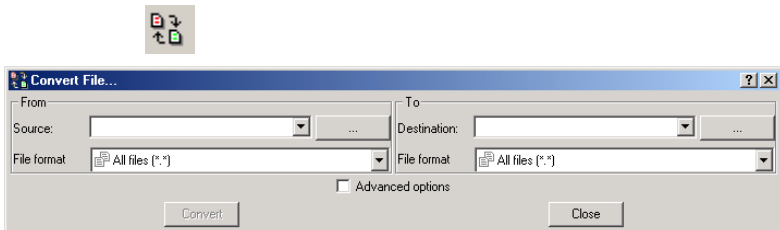

Figure D-22. Click Convert Icon
1. Click the **Convert** icon on the toolbar; the *Convert File* dialog box displays (Figure D-22).